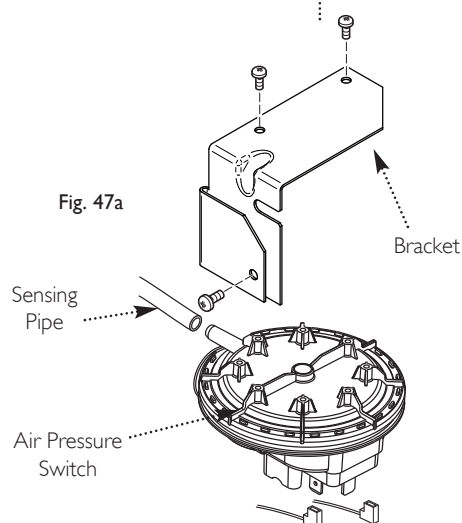

Fig. 47a
13.3 Air Pressure Switch (Fig. 47a)